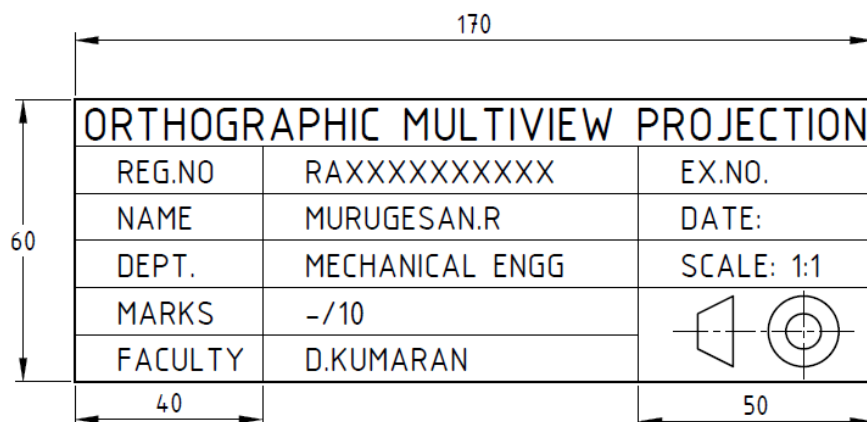

Figure 1 Title Block (All Dimensions are in mm)
2. Draw Margins and Title block in drawing sheet. (Refer Figure 1) 45 min/ 05 marks/ level 1/